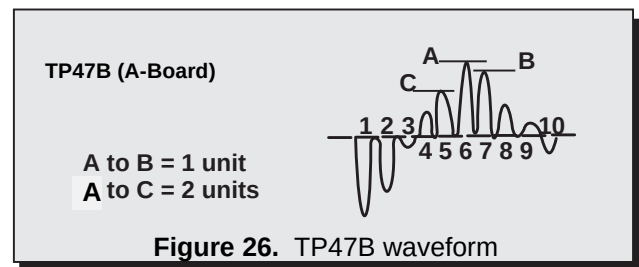

Figure 26. TP47B waveform
2. In the service mode, select "TINT DAC Sub-Tint adjustment. Adjust until the waveform measured is as the one shown in Fig. 26.